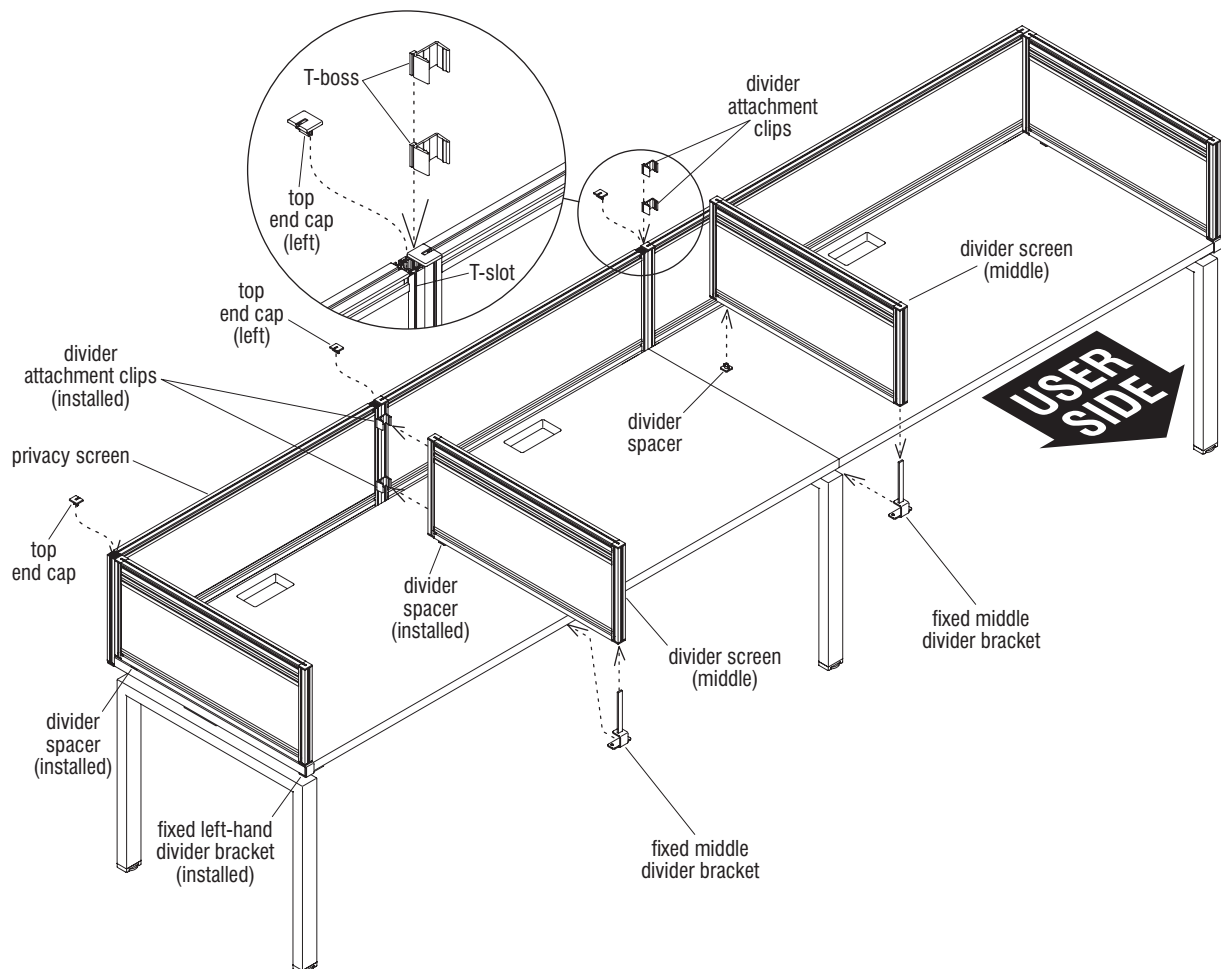

Figure 4 - Single-Sided Fixed Benching - Middle Divider Screen Installation
7. At each union of privacy screens to receive middle divider screens, correctly orient and slide the T-boss of two divider attachment clips down the T-slot (where top cap was removed) and into position with one above the other as illustrated (Figure 4).
8. Locate and orient a "fixed middle divider bracket" as shown and slide the bayonette into the hole at the bottom, front of the middle divider screen. Next, locate a "divider spacer", position it into the horizontal T-slot at the underside of the divider screen near the back and twist the spacer 90° to lock it in position (Figure 4).
10. Repeat the process for all middle divider screens to be installed, then re-install all top end caps that were removed. Go back and adjust all divider spacers and divider attachment clips to be uniform along the run of benching (Figure 4).